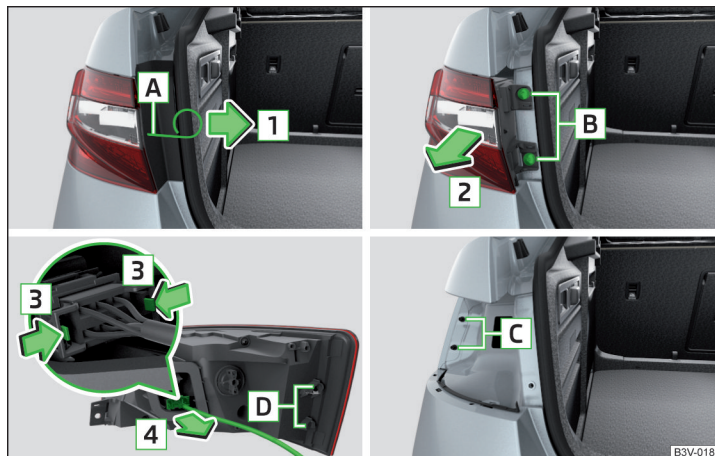

Fig. 265 Remove light / pull out connector
- Insert the clamps for removing the full wheel trims into opening **A** » Fig. 265.
- › Slide the plug in the opposite direction of the arrow **4** » Fig. 265 into the light. The locks on the plug must be inserted securely.